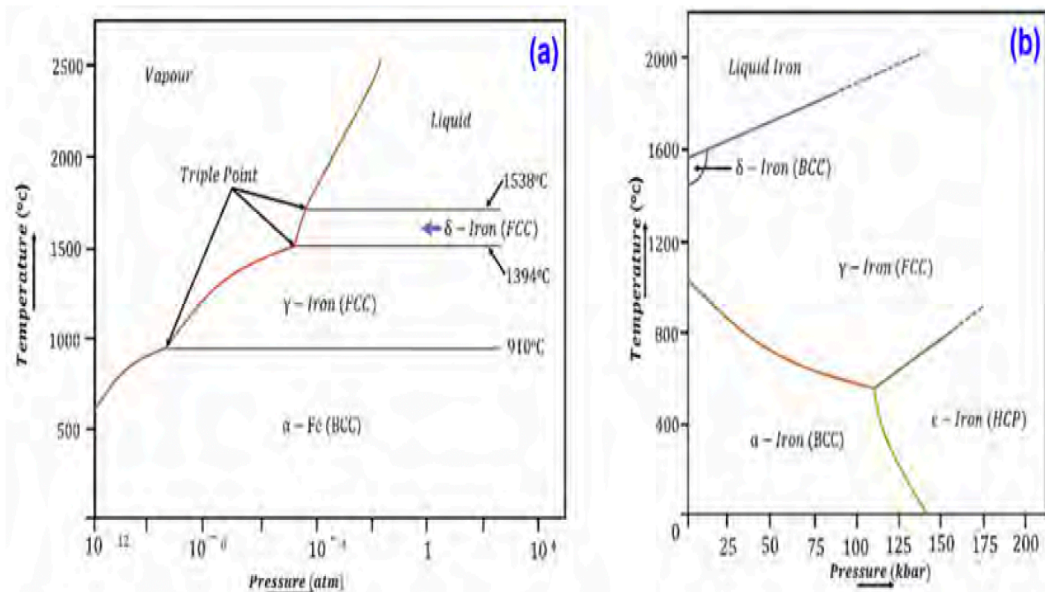

Fig. 2.4: Pressure-temperature diagram for pure Iron at (a) lower pressure range, and (b) higher pressure range (1 atm ~ 1.013 bar pressure).
- **FIG. 2.4:** P-T DIAGRAM FOR PURE IRON. SHOWS PHASE CHANGES (BCC TO HCP) AT VERY HIGH PRESSURES.